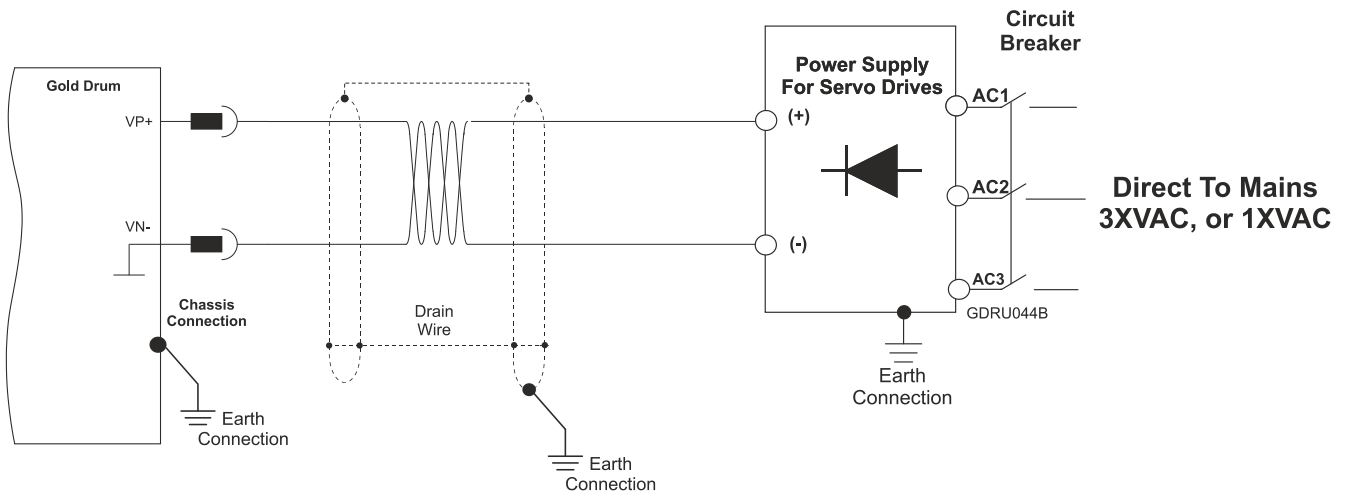

Figure 11: Non-Isolated from the Mains DC Power Supply connection
- In the **Non Isolated** Connection (direct to Mains) the **VN-** terminal **MUST NOT** be connected to "Earth Connection"(PE) (Figure 11).